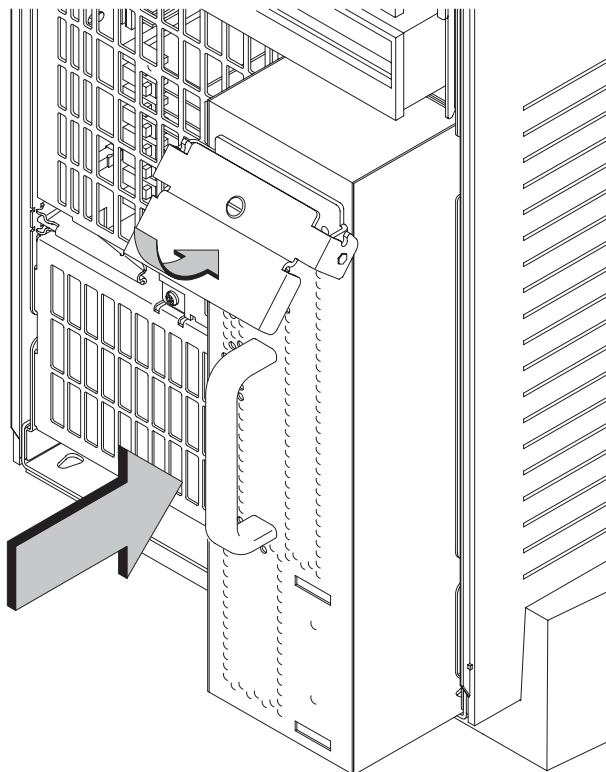

Figure 5-54. Replacing the Power Supply
2. Press down on the the power supply extractor to ensure the connections are made and secure the extractor with the center screw. See Figure 5-54.